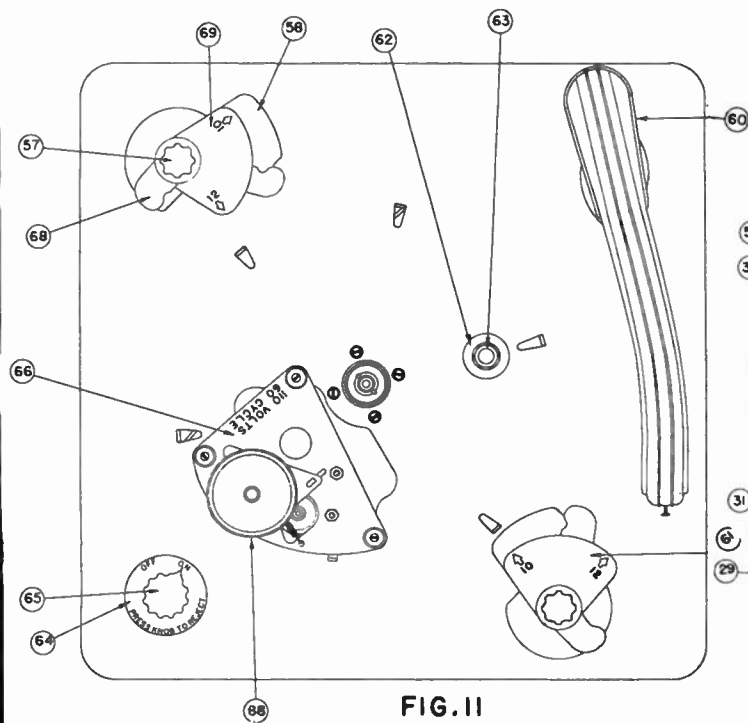
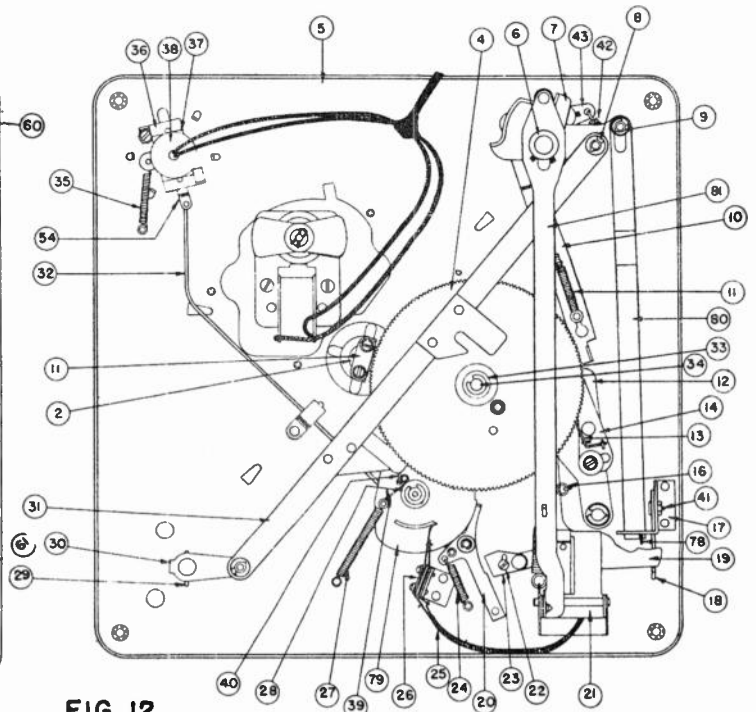

FIG. 11
FIG. 12
1. Swing tone arm outward until tone arm lever assembly, (Item 19, Fig. 12) latches with tone arm latch lever, (Item 18, Fig. 12) which is held to the tone arm shaft, (Item 77, Fig. 13) by two setscrews.
2. Make sure these setscrews are tight and that there is a slight play between the tone arm lever assembly and the panel, (Item 5, Fig. 12). This will give proper clearance at ball race assembly, (Item 74, Fig. 13).
The tone arm lever assembly, (Item 19, Fig. 12), is held against tone arm latch lever, (Item 18, Fig. 12) by the tension of tone arm locator lever spring, (Item 16, Fig. 12).
4. Now move tone arm, (Item 60, Fig. 11) until its outside edge is  $\frac{1}{8}$ " from the outside edge of the panel (Item 5, Fig. 12) and re-tighten screw securely.
If the Record Changer does not go into its changing cycle when the needle has reached the above-mentioned distance, the Tone Arm Trip Lever Shoe, (Item 23, Fig. 12), should be moved toward the outside edge of the panel. To do this, it is necessary to loosen the thumb nut, (Item 22, Fig. 12), and then retighten after adjustment has been made.
2. Check Trip Rod, (Item 32, Fig. 12), to make sure it releases Trip Lever Assembly, (Item 20, Fig. 12), from Engagement Clutch Cam Assembly, (Item 79, Fig. 12), when Switch Knob is being turned on. If Trip Lever Assembly is not released, Trip rod should be shortened by bending until Trip Lever clears Engagement Clutch Cam Assembly, when Switch Knob is turned.
3. Make sure that Clutch Reset Pawl, (Item 40, Fig. 12) clears Drive Link Assembly, (Item 31, Fig. 12).
(A) Trip Lever Assembly, (Item 20, Fig. 2) does not latch in Engagement Clutch Cam Assembly (Item 79, Fig. 12), which may be due to causes listed below:
1. Trip Rod (Item 32, Fig. 12), may be bent so that it is too short, holding Trip Lever Assembly from contacting Engagement Clutch Cam Assembly.
2. Springs (Item 24 or 35, Fig. 12) may be disconnected.
1. Muting switch (Item 26, Fig. 12), may be out of adjustment. The contacts of this switch should be open whenever its long blade is not resting on the shoe of the Engagement Clutch Cam Assembly (Item 79, Fig. 12). If the contacts remain closed after the long blade has left the shoe, they should be adjusted by bending until there is a separation of approximately  $\frac{1}{32}$ ".
4. Set Rod (Item 56, Fig. 13), is operated by Selector Arm (Item 61, Fig. 11). The 12" Set Link (Item 10, Fig. 11), operates as a stop when Record Changer is set for 12" records. When Tone Arm Locator Assembly (Item 12, Fig. 11) contacts 12" Set Link the Tone Arm should be in the correct position to play a 12" record.
If at this point, the position of Tone Arm is incorrect, loosen the screw which holds the Tone Arm Locator Shoe 12" (Item 14, Fig. 11) and move in either direction as required and tighten screw.
Check clearance between Roller (Item 51, Fig. 13), and Selector Crank Shaft Assembly (Item 7, Fig. 12). There should be approximately  $\frac{1}{32}$ " clearance at this point. If the clearance is greater, it would be due to the pressure on the Spring Washer (Item 50, Fig. 13) being too great. This will prevent the Tone Arm Lifter Reset Spring (Item 82, Fig. 13) from returning the Tone Arm Lifter Link Assembly (Item 81, Fig. 12) sufficiently. To relieve the pressure on the Spring Washer, lower the Selector Shaft Collar (Item 6, Fig. 11) slightly.